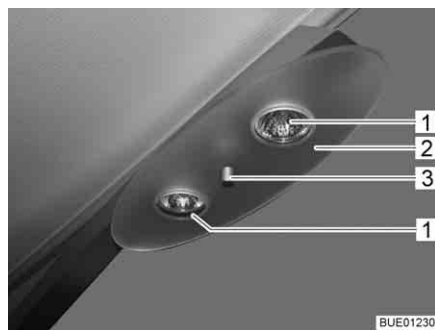

Fig. 239 Halogen ceiling lamp
- Unscrew retaining nut (Fig. 239,3) and remove cover plate (Fig. 239,2).
- Remove halogen bulb (Fig. 239,1).